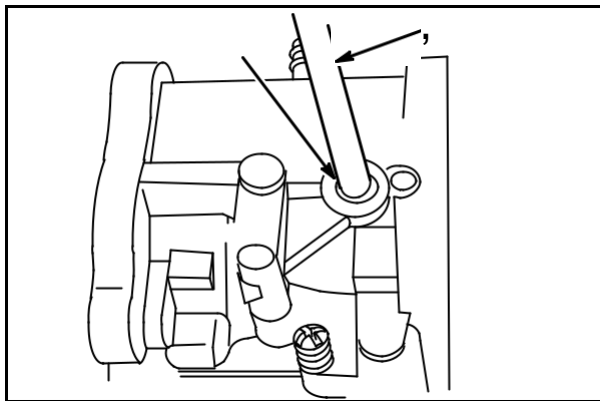

Fig. 33
Install new transitional hole idle port welch plug (1), **Fig. 33**.